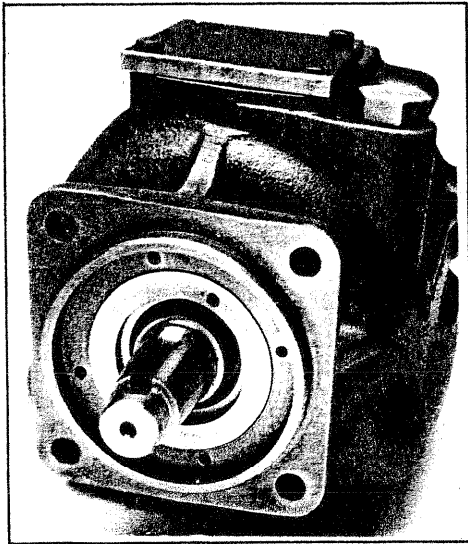

Figure 4. Pump Mounting Flange
1. Direct Mounting – A pilot on the pump mounting flange (Figure 4) assures correct mounting and shaft alignment. Make sure the pilot is firmly seated in the accessory pad of the power source. Care should be exercised in tightening the mounting screws to prevent misalignment.